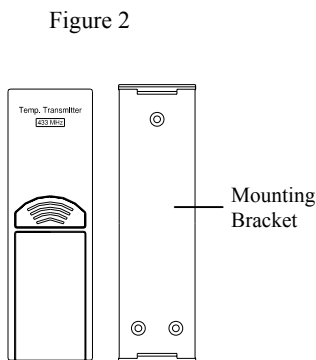

Figure 2
2. One TX6U remote temperature sensor with mounting bracket (Figure 2).